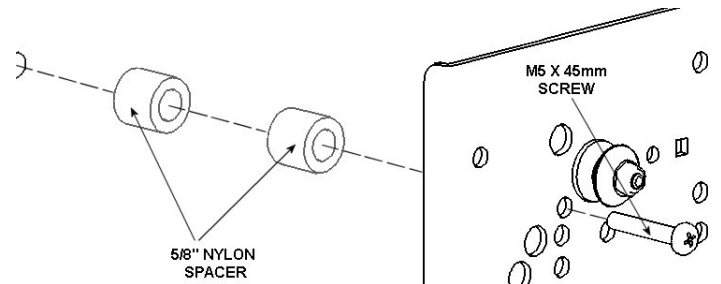

Figure 11. Installation with Media Box for Group 4
4. If installing a media box, place four additional 5/8" Nylon spacers over the spacers installed in Step 3 (see Figure 11).